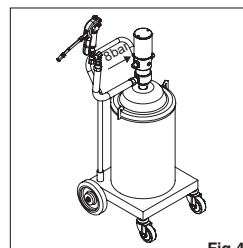

Fig.4
4. Screw the hose tightly to the pump. Input compressed air 8 bar to the pump inlet. (Fig.4)